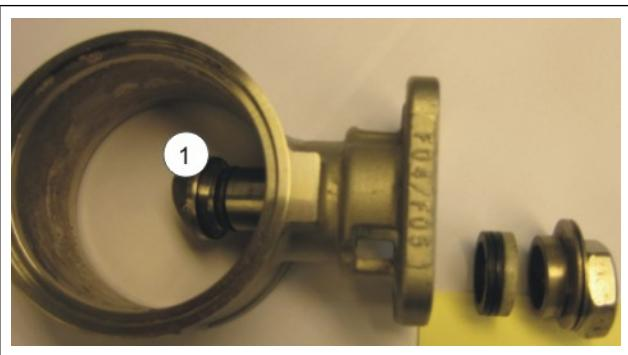

Fig. 15. Removing the stem, seals and washers.
4. Push out the stem (Fig. 15, part 1), and the seals and washers will come loose. NOTE: Make sure to remember the correct order of the seals and washers!